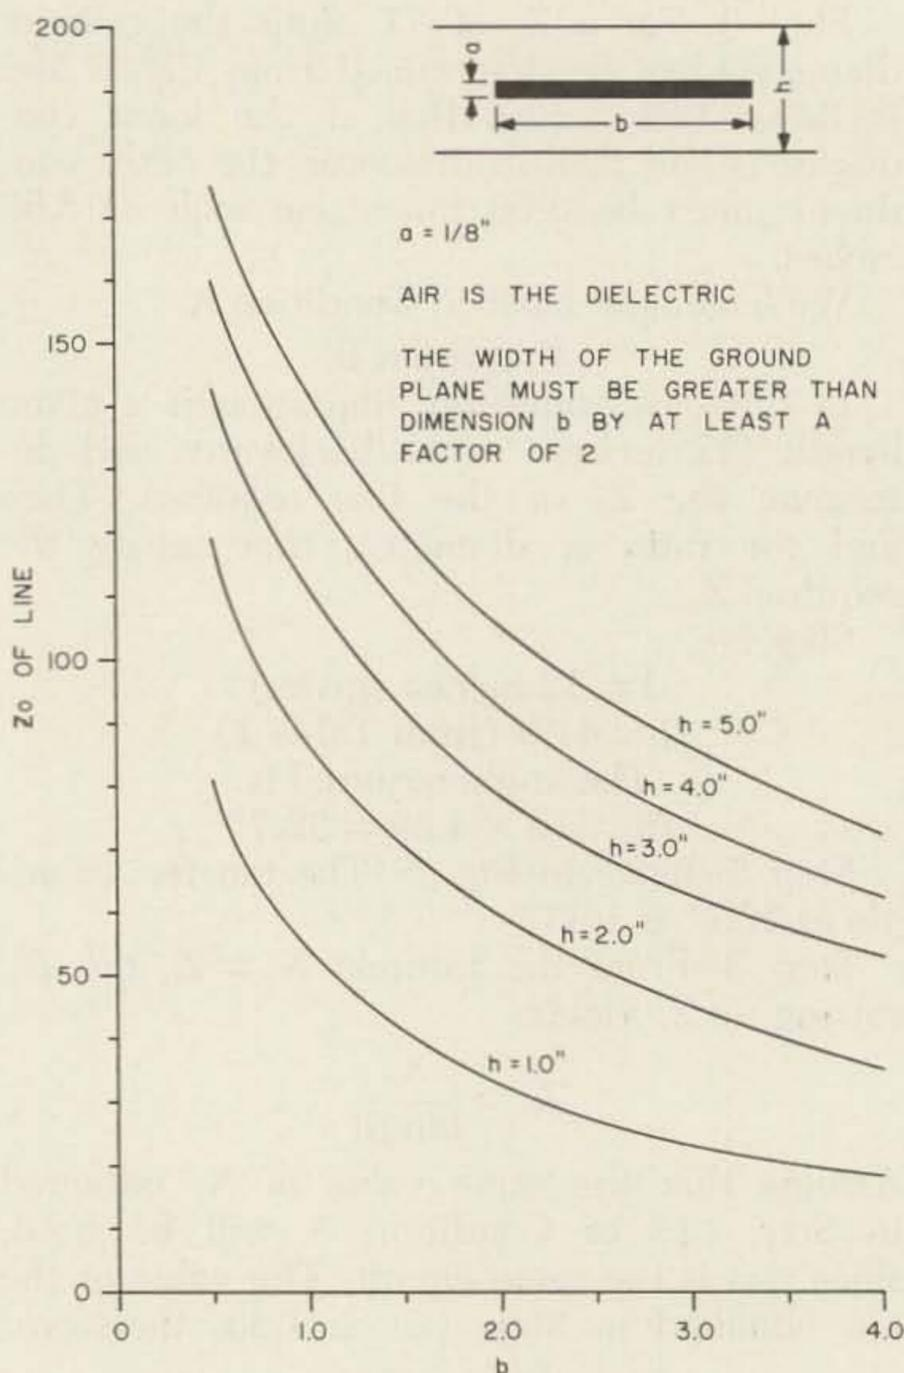

Fig. 8. Impedance of 1/8 inch strip lines.
- (1) We will use a 2C39 at 432 mc.
- (2) The plate tuning capacitance will be 2 mmfd maximum.
- (3) The output capacitance of the 2C39 is 1.95 mmfd, assuming a grounded grid configuration, the output capacitance is the grid to plate capacity.
(4) We will use 1/8 inch thick line, 2 inches wide between ground planes, 2 inches apart. As stated previously, this means the minimum distance for the width of the enclosing section of the box is 4 inches.
Step 1—Determine the impedance (Z_0) of the line from Fig. 8. From (4) above, we find that $b = 2$ inches, $h = 2$ inches and from Fig. 8 the Z_0 is 59 ohms.